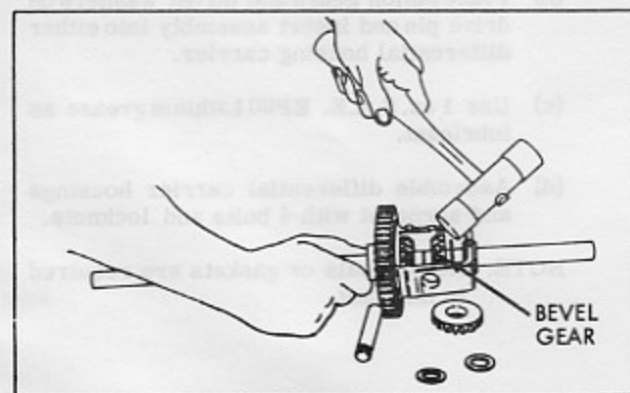

Figure 8-7
- (d) Drive out double roll pin and slide axle out. On roll pin drive types, drive the bevel gears from the axle. See Figure 8-7.